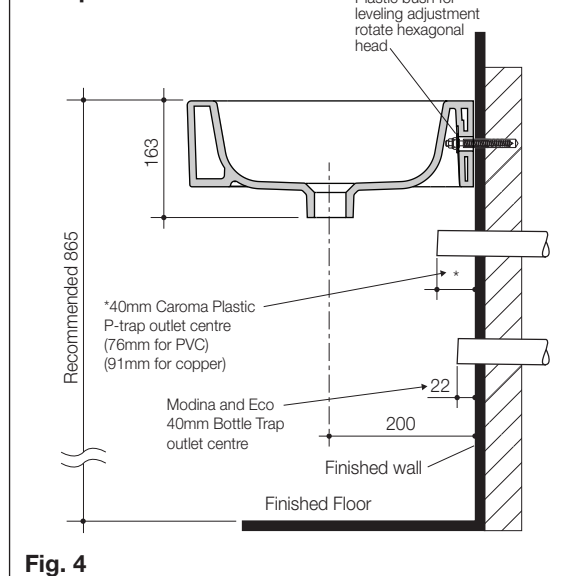

Fig. 4
- 4- Locate basin onto the Fixing Screws on the wall. Insert Plastic Bushes, Washers and fasten to wall with Fixing Nut to complete assembly as detailed in **Fig. 4**.
- 5- The Plastic Bush allows for leveling adjustment if required by rotating the hexagonal head bush, the basin will be slightly raised or lowered as shown in **Fig. 4**.